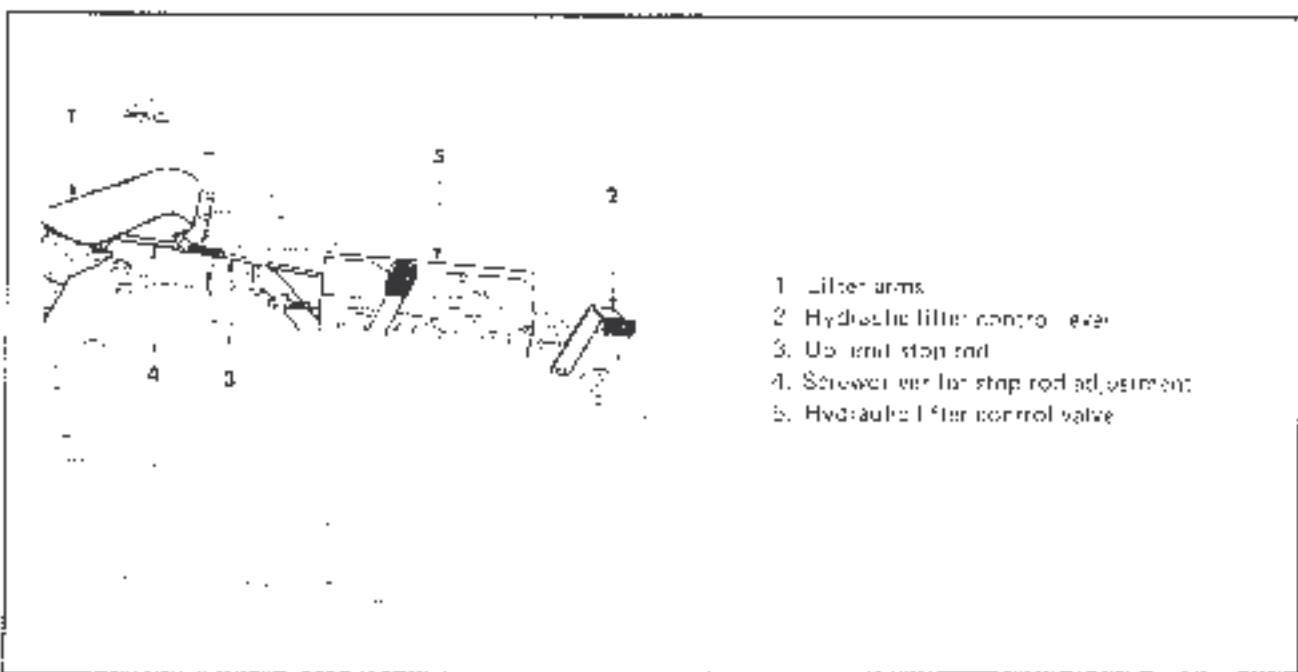

Figure 38. Adjustment of UP limit stop rod
b. Lifter does not lower. (This may be encountered in the case of a new apparatus after a fairly extended inactivity from final test).	1. Jamming of shaft (3). Dismount cover (22), place the control lever in down position. Unlock shaft gently tapping on
d. Lifter does not remain in place, it rises or falls with jerking action. When engine is off, rod creeps down.	1. Leaking check valve (16). Take off cover (26); remove valve and clean valve seat. If seat and valve are found to be in good conditions and trouble is still encountered; change oil filter oil and clean cartridge. 2. Oil seepage through piston seal or seal rings of cylinder cap, or through seating located between the body of the distributor block and the housing. Replace seal.
e. Poor lifting power. Anomalous overheating of the system.	1. Pump low efficiency. Overhaul pump or replace it. 2. Improper setting of relief valve (9, 10). Remove cover (26) and replace spring. 3. Valve plunger (9) and seat (10) are out of order and allow oil seepage. Replace the valve. 4. Impurity on the pilot valve seat (14). Take off cover (26), remove valve and clean valve seat. 5. Pilot valve seat worn out (14). Overhaul distributor block.
f. When lifter arms are fully "up", rod is valve cut-off.	1. Jamming of shaft (3). Dismount cover (22), place control lever in down position and release shaft by tapping. 2. Improper setting of the valve in stop. Lift lifter arms (fig. 38, detail 11, through lever (7); adjust lever (7) with a screwdriver (4) until engine speed rate is caused to increase hydraulic circuit not under pressure and correct.